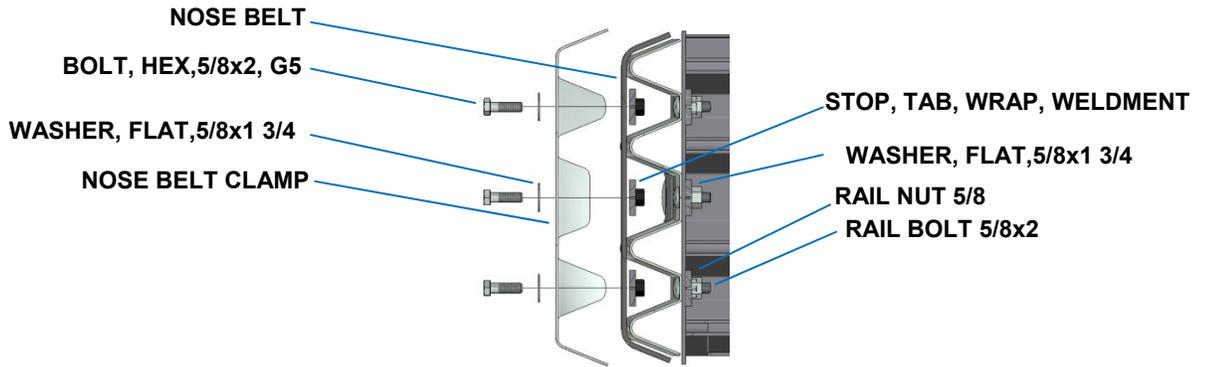

Figure 34
Finally attach the Nose Belt to the Fender Panels using 5/8" x 2" long hex bolts (6), 5/8" flat washers (24) and 5/8" hex nuts (18), through the Belt Clamps (Figure 34).
Adjust the hex nuts so that the faces of the flat washers are flush with the outside humps of the Fender Panels (Figure 34).